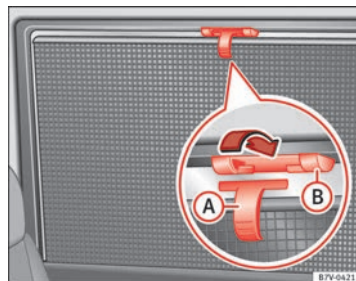

Fig. 65 On the rear right-hand window: sun blind
- Pull the sun blind by the handle ⇒ Fig. 65 (A) up to the top.
- Hook both rings of the fastening rod in the spaces provided (B). Check that the sun blind is securely hooked into the spaces provided when it has been lowered (B).
- To put the sun blind away, unhook it at the top and lower by hand ⇒ ①.